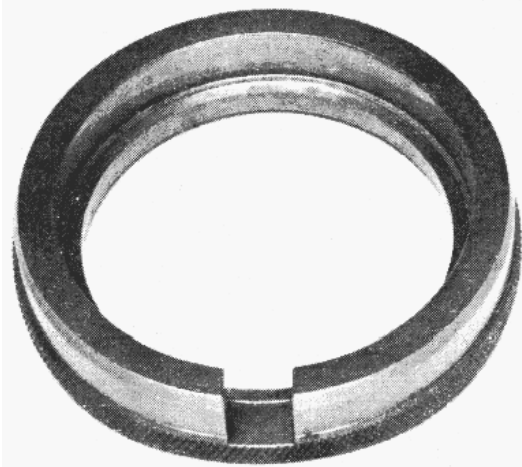

Fig. 18 Freewheel Assembly Ring, Churchill Tool No. L178.
- (d) Assemble the roller clutch. This is quite easily done with the special assembly ring (Fig. 18). The roller clutch inner member (A), cage (B) and spring are put together, making sure that the spring is in the right way so as to cause the cage to urge the rollers up the inclined faces of the inner member. (See note on page 15).